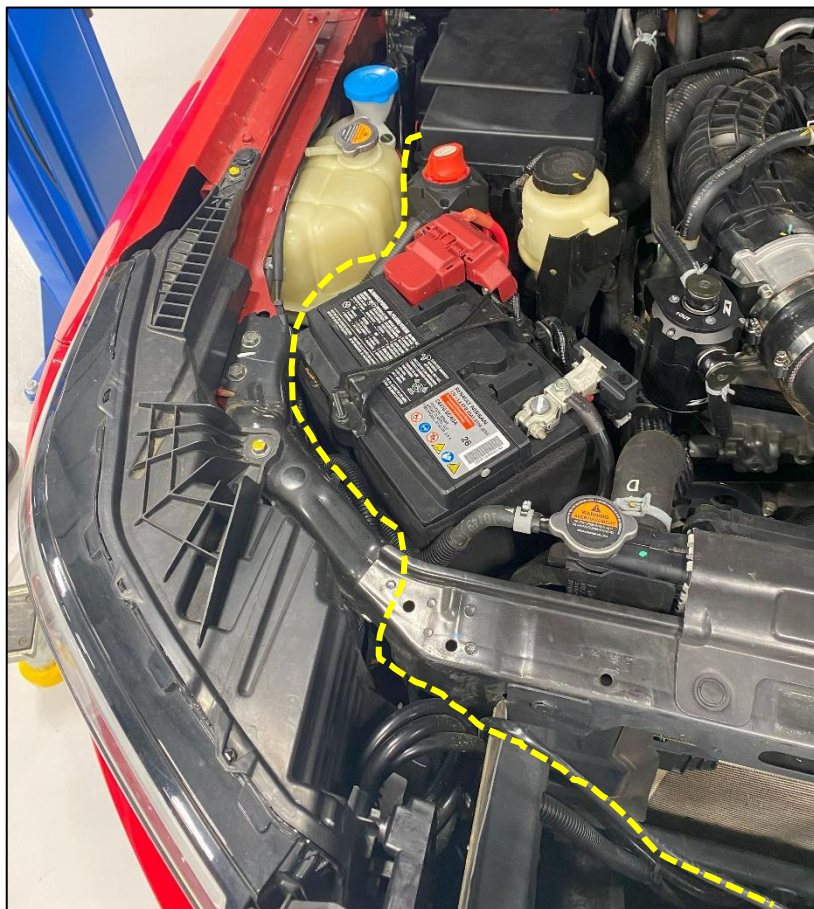

Figure 9
13. Route the Wiring Harness to the Fuse Box in the passenger side of the engine bay. There are multiple ways to run the wire. We ran ours through the Core Support, in front of the battery, and between the Coolant Reservoir Tank. *Figure 9.*